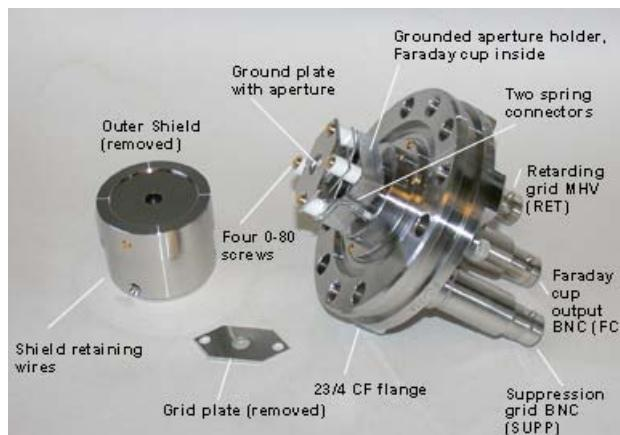

Figure 1: Faraday cup FC-73A with outer shield removed
The FC-73A Faraday cup has a set of three grids so that it can be used as an energy analyzer. These grids are, in the order that the electrons or ions go through them: ground, retarding, and suppression, labeled G, R and S in the diagram with Fig. 1.
- Connect a suitable user-supplied pico-ammeter to the output BNC on the flange labeled FC. (See Fig. 1).
- For the retarding grid: Connect a user-supplied power supply that provides voltages approximately 10% higher than beam energy (5000 V max.) to the flange MHV labeled RET. (See Fig. 1)
- Replace the shield by putting it over the Faraday cup and replacing the 3 screws. (See Fig. 1).
- Disconnect the two internal spring electrical connections from the plates. (See Fig. 1).